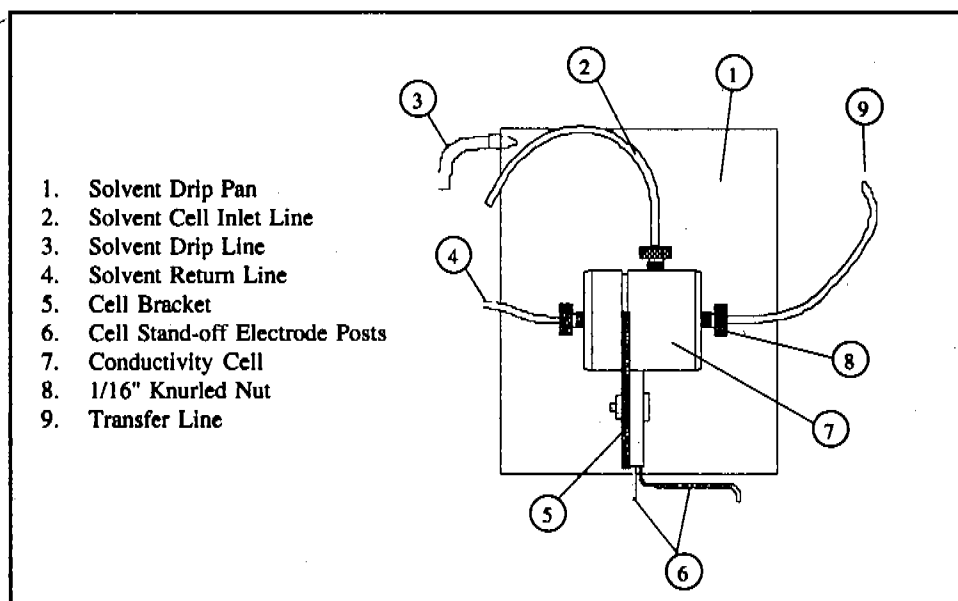

Figure 5.4. Cell Assembly
- Remove the Solvent Lines from the Cell by removing the 3 Thumb Nuts. (see Fig. 5.4).
- Connect the three Solvent Lines to the Cell (see Fig. 5.4). Do not overtighten the Thumb Nuts — *finger-tight* will suffice.